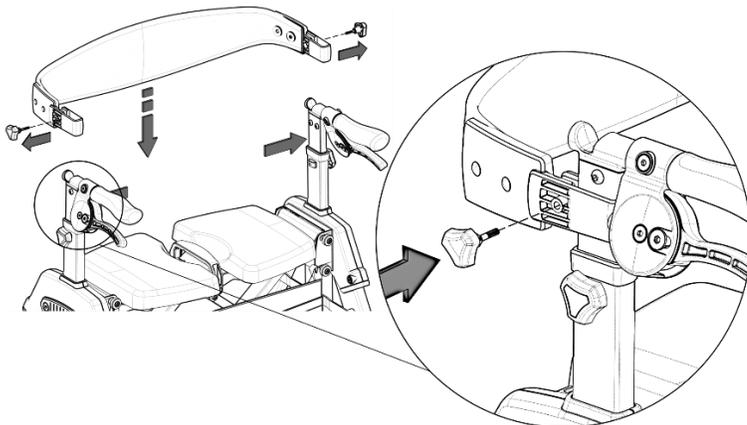

FIGURE 2
2. Unscrew knobs from back strap and snap onto handle arms, retighten as shown in *FIGURE 2*.